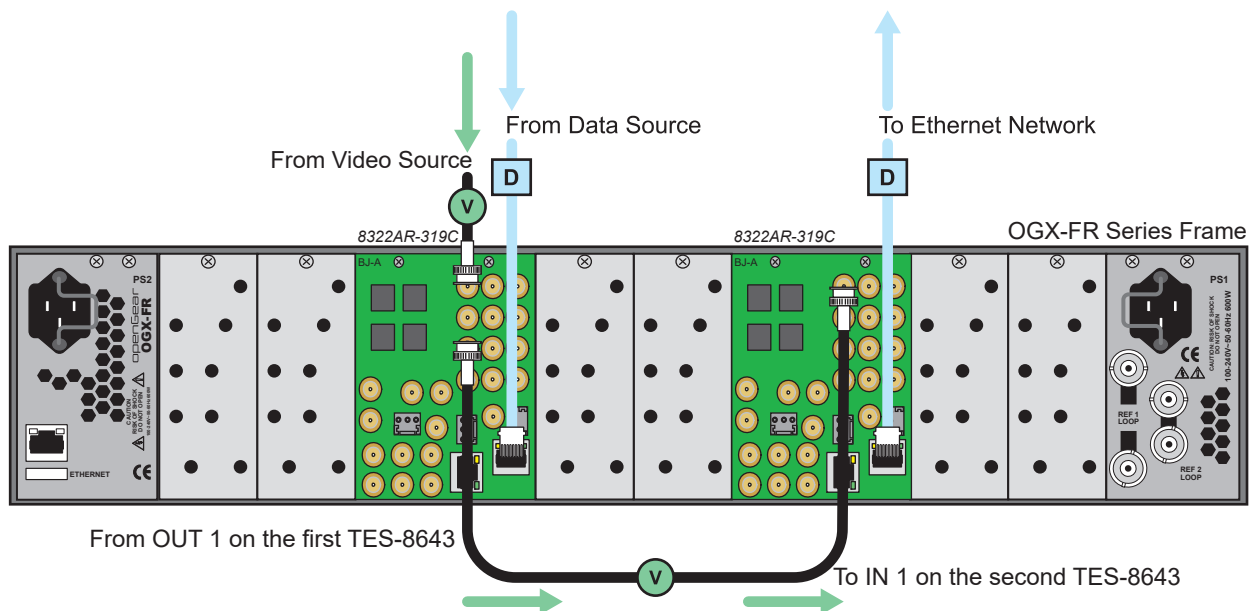

Figure 3 Cabling Overview
3. Connect the **OUT 1** BNC on the first TES-8943 to the **IN 1** BNC on the second TES-8943. See **Figure 3**.
4. Connect the **IN 1** BNC on the first TES-8943 to the video source. See **Figure 3**.
5. Connect the Data Source and the first TES-8943 to the network. See **Figure 3**.
6. Connect the receive computer and the second TES-8943 to the network. See **Figure 3**.